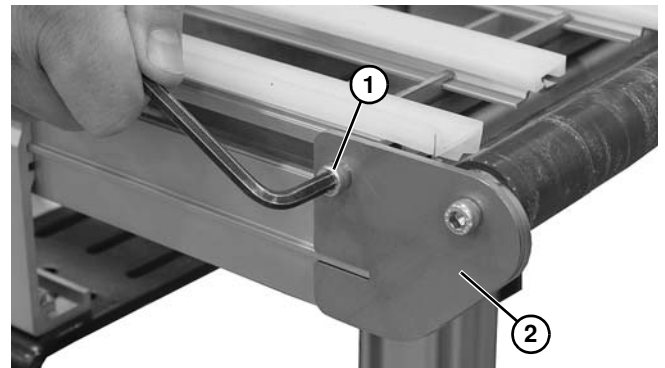

Figure 80
1. On both sides of conveyor, remove fastening screw (Figure 80, item 1).
2. Remove idler tail (Figure 80, item 2) from conveyor.